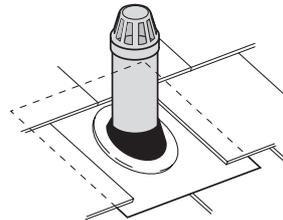

Fig. 19c Steps 4/5
Step 4 – Dress the base plate to fit the lower tiles (Fig. 19c)